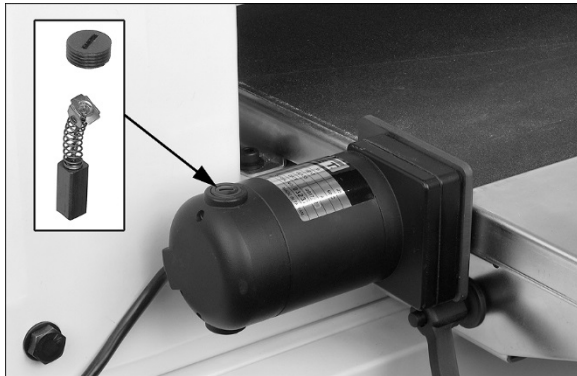

Figure 10-4
2. Unscrew and remove cap with flat blade screwdriver. See Figure 10-4.